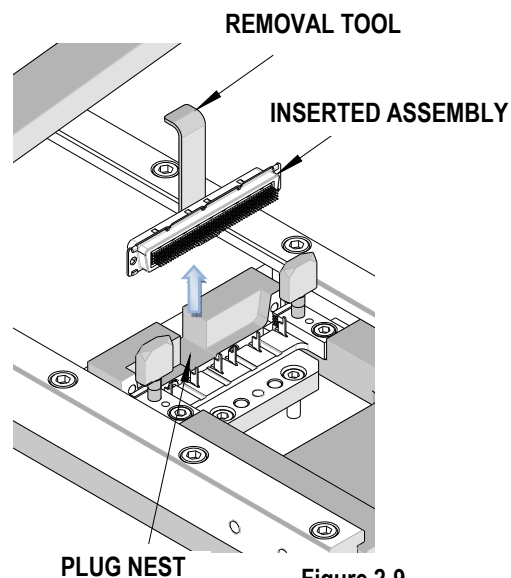

Figure 2-9
14. There is a cleared - out area in the center of the shield nest for the plug removal tool to enter. Remove the inserted assembly from the cable clamp. See Figure 2-9.